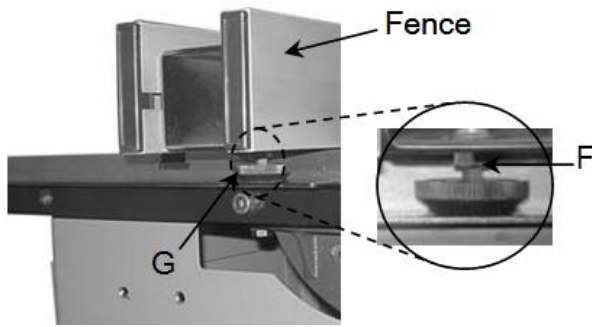

Fig. 15
1. Loosen the hex nut F on the leveling foot G located under the rear end of the fence Fig. 15.